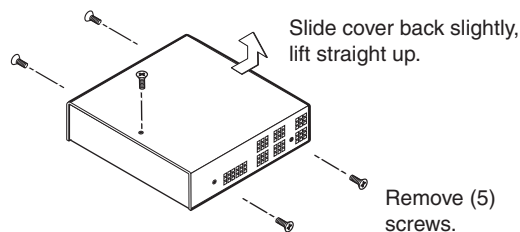

Figure 2-14 — Opening the interface cover
- a. Remove the screws from the top cover of the enclosure (figure 2-14).